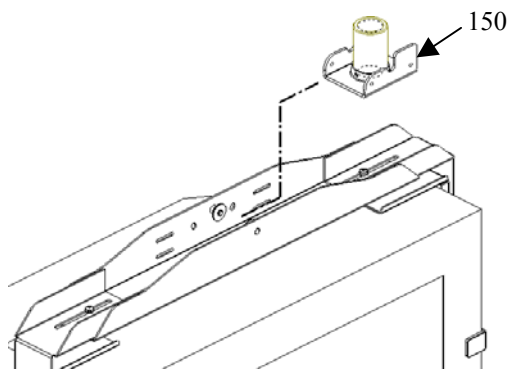

Figure 19. Install Quick-Connect
1. Carefully lift the monitor and CTV mount up to quick-connect bracket (150).
2. Move CTV mount so the quick-connect bracket (150) slides inside the top center bracket (120) as shown in Figure 19.